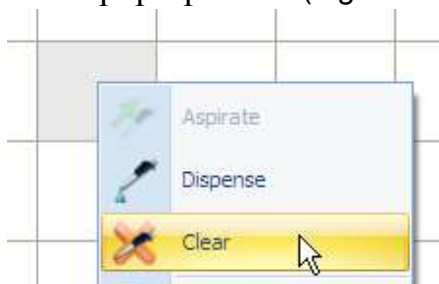

Figure 4.40 Clear Aspirated Data
2. Right-click the selected wells and select **Aspirate** from the pop-up menu that appears (Figure 4.40).
- To clear the data from the virtual pipette, right-click and select **Clear** from the pop-up menu (Figure 4.40).